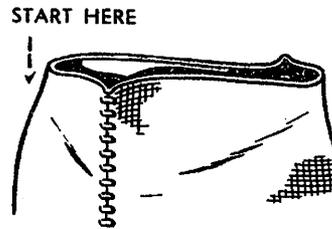

Figure No. 15
18. When closing bags that are thick seamed on both sides such as Calcutta or Sisal bags, pull the seam on the starting side of bag two or three inches to one side, so that you start closing on the bag proper and not the seam. See Figure No. 15.